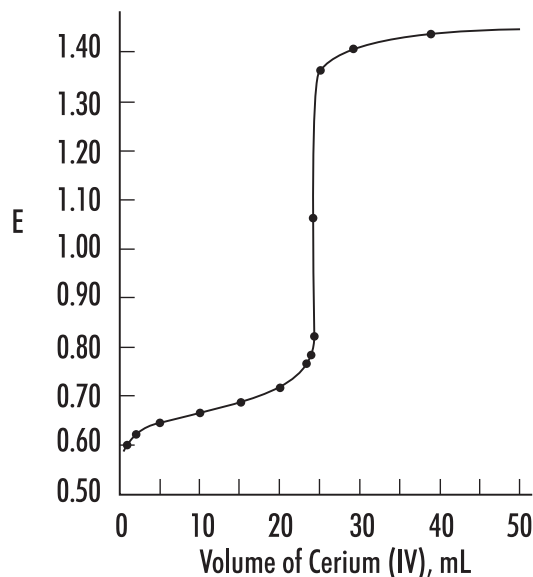

Figure 8: Redox titration
There are a number of oxidation-reduction reactions that can be used to determine unknown concentration by titration. If the reaction goes to completion, is fast and has an analytical signal available to follow it, a titration can be performed. The term “fast” means that each addition of titrant is reacted completely and the sensing electrode is able to detect the change in solution in less than one second. **Figure 8**, Redox titration, shows an example of a redox titration using Cerium (IV) as a titrant.